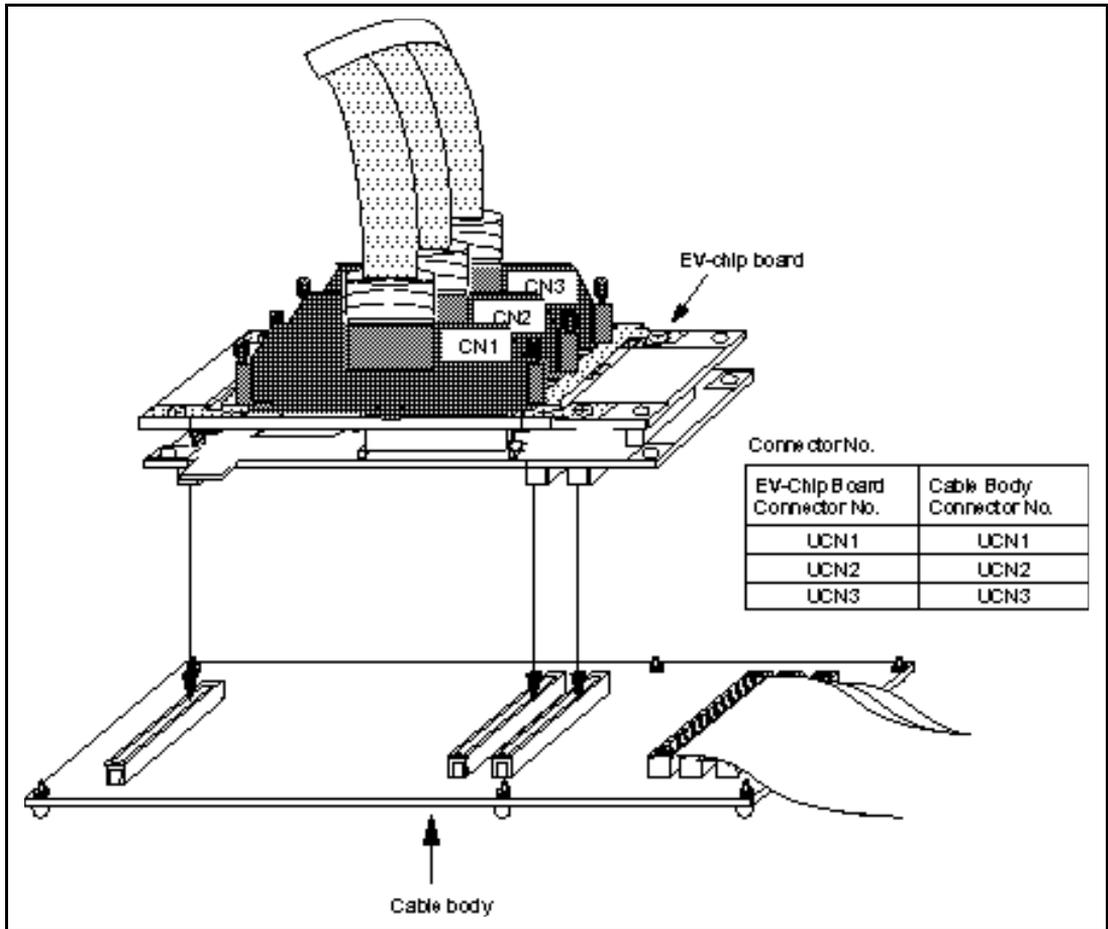

Figure 2 Connecting User System Interface Cable to EV-Chip Board
2. Align the connectors on the cable body with those on the EV-chip board according to their numbers (figure 2), insert the cable body connectors to those on the EV-chip board until they are locked.